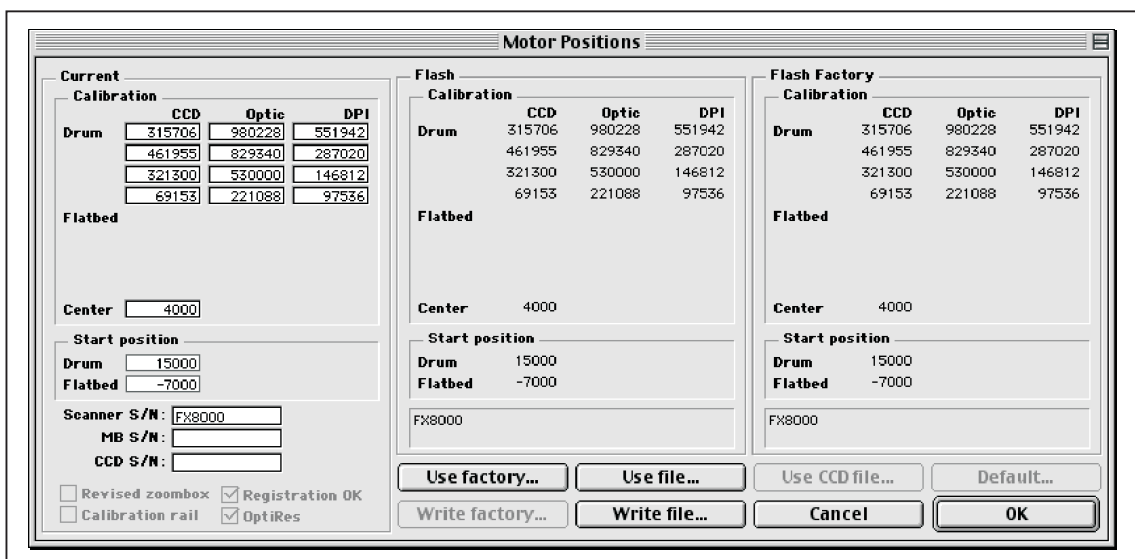

Figure 9.1: The Motor Positions window
2. In the **Motor Positions** window (see Figure 9.1) click on the **Write file** button, then name your file and select where you want to save it and finally click on **Save**.
2. In the **Motor Positions** window (see Figure 9.1) click on the **Use file** button, then locate the calibration file you want to load and click on **Open**. This will load the values from the file into the **Current** area.
3. In the **Motor Positions** window (see Figure 9.1) click on the **Use factory** button. Confirm that you want to overwrite the current positions with the factory positions by clicking **OK**.